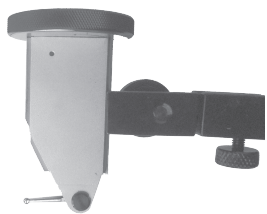
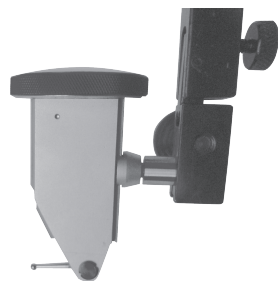

fig.2
fig.3
1. Dial test indicator should be fixed firmly to use. It can be fixed by dovetail groove directly (fig.2), also can be fixed by clamp(fig.3).